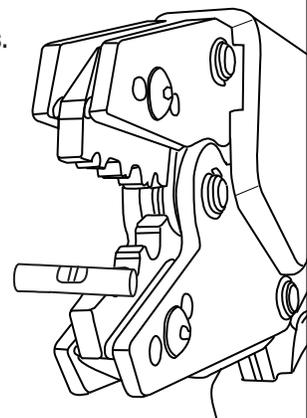

Figure 3
2. Splices require two crimps. Position the splice in the proper nest as shown in Figure 3, with window facing indenter.